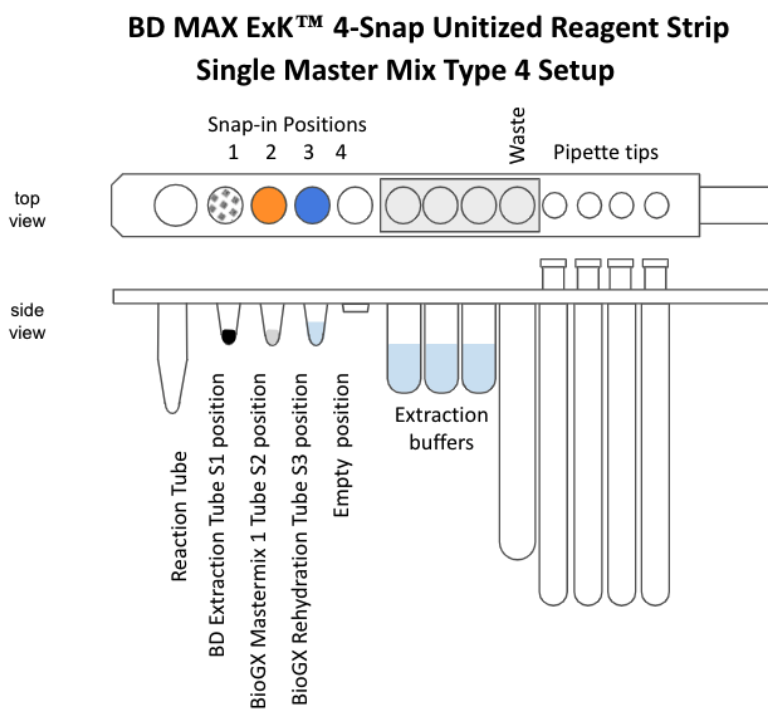

Figure 1. Diagram of BD MAX™ ExK™ 4-snap Unitized Reagent Strip.
4. Snap one BD MAX™ ExK™ DNA-1 Extraction Tube into position 1 (Snap-1) of each Unitized Reagent Strip (Figure 1).